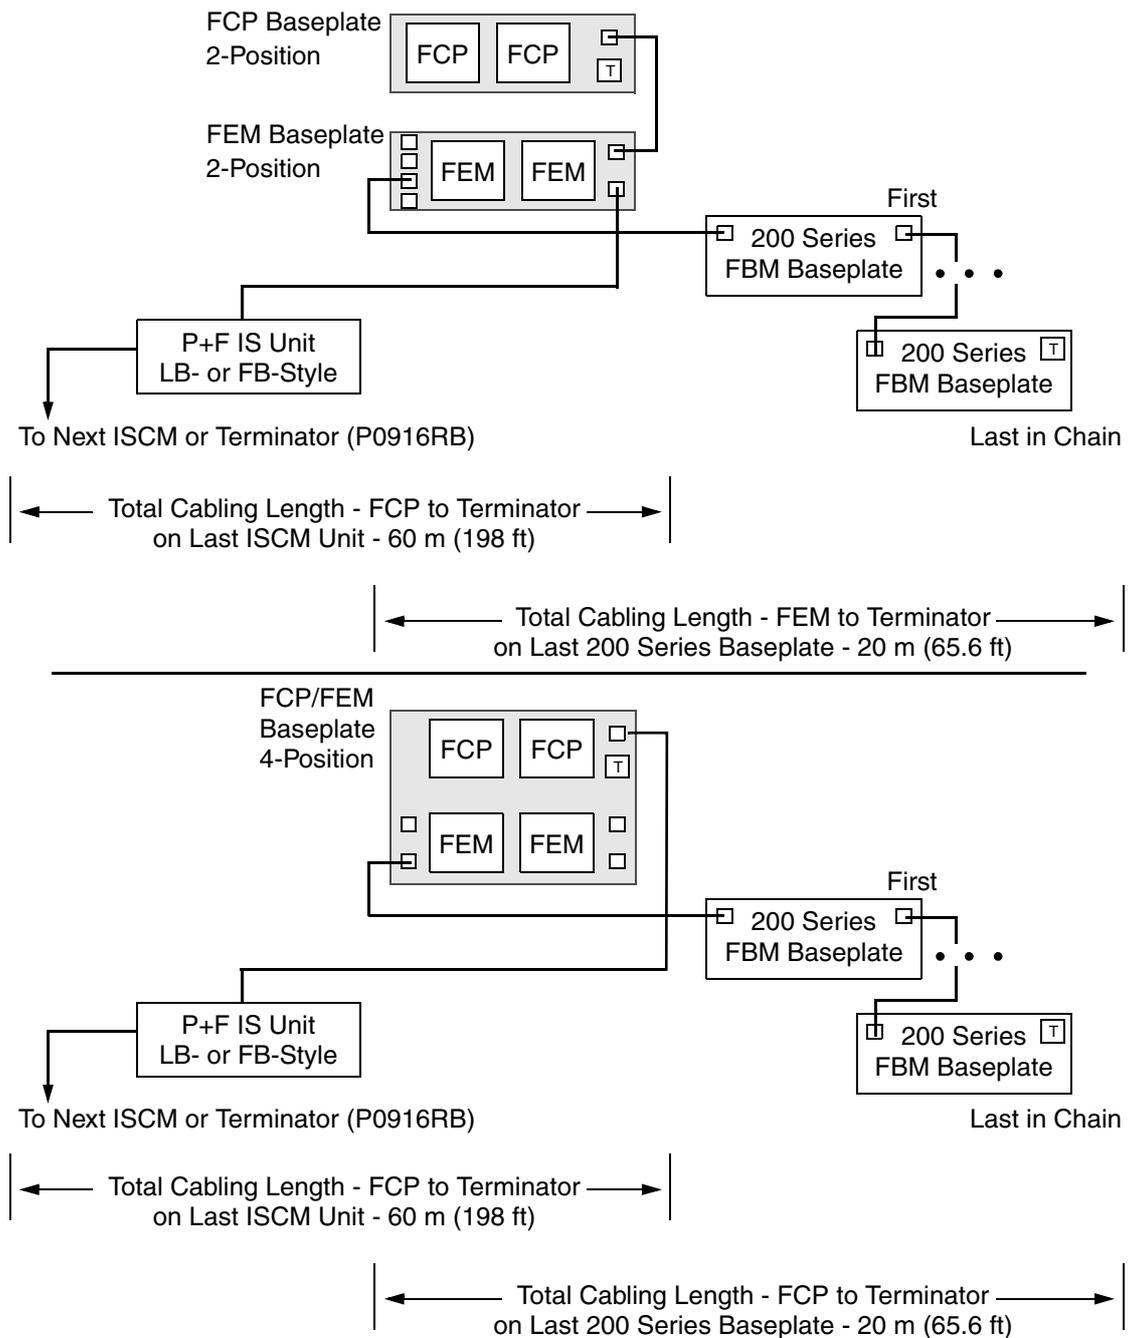

Figure 1-10. Fieldbus Cable Length Restrictions for FCP270, FEM100 and Intrinsically Safe Units without FCM2Fs
- ◆ Fieldbus cable length from an FCP270/FEM input to an ISCM’s unit (LB-style or FB-style) can be up to 60 m (197 ft) end to end. The FCP270 can be at an end or in the middle of this length (if multiple P+F units are connected to one FCP270). See Figure 1-10.